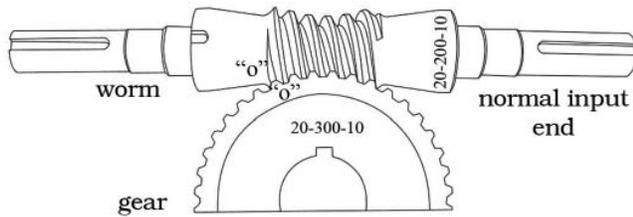

Figure 1
“O” markings will appear on many multiple threaded worm gearsets. When “O” markings are present, care should be taken during assembly to ensure that the “O” marks are properly aligned. As indicated in figure 1, when properly aligned, the “O” stamped worm thread will pass through the “O” stamped space between two gear teeth.
1. Coat gear teeth and worm threads with a nondrying contact paste. Caution: On some multiple threaded worms, a zero marking will be on the worm and gear. These must be matched during the assembly of the gear and the worm. (refer to “O” marking in figure 1).